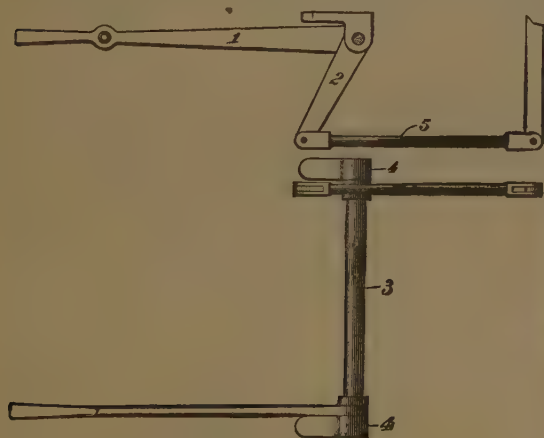

Fig. 138. Whistle Work.
A. The bell (figure 137) and the whistle (figures 138 and 139).